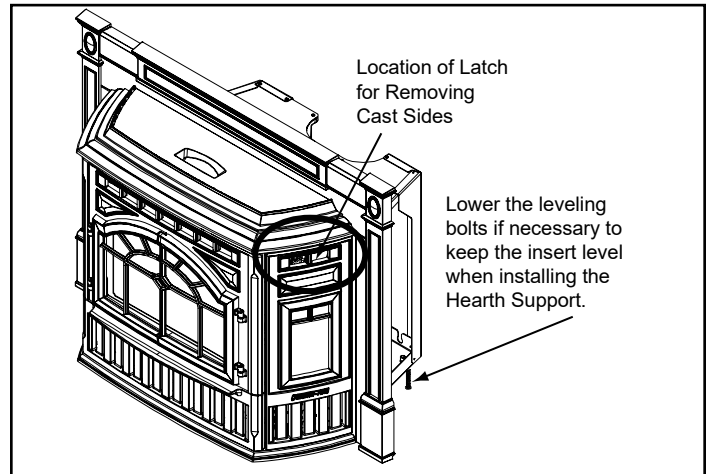

Figure 19.2 - Shown with Cast Panel Set
5. Attach flex pipe (not included) to outside termination cap with second wire tie (**Figure 19.2**).